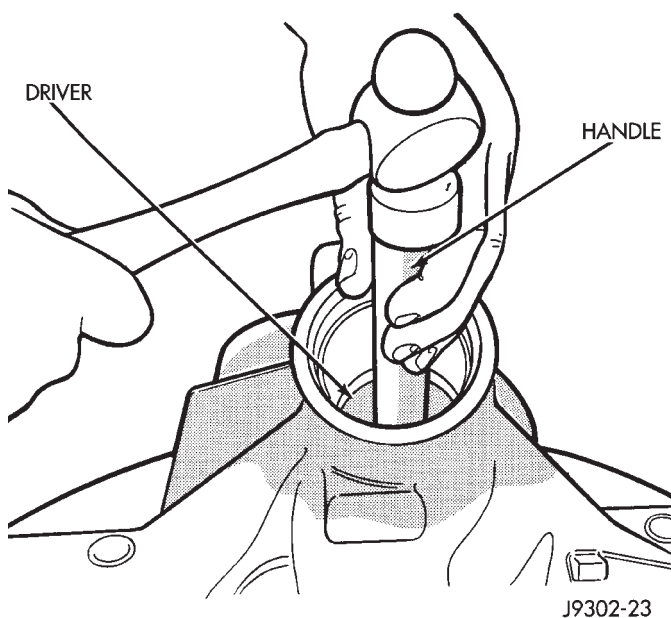

Fig. 29 Rear Bearing Cup Removal
(11) Remove the rear bearing cup from housing (Fig. 29). Use: